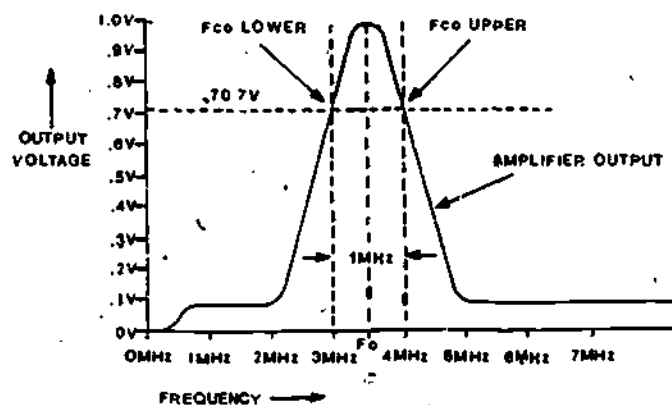

Figure 4
7. The amplifier characteristics you have covered can be presented in a frequency response curve as shown in Figure 4.
Frequency response curves will be common in your study of electronics. Figure 4 shows a frequency response curve for an amplifier with an input of .1 volt and a gain of 10. The frequencies of the input voltage are divided along the horizontal (or X) axis. The amplifier output voltages are divided along the vertical (or Y) axis. The curve of the amplifier output shows the output voltages which go with different frequencies of the input voltage. Recall that the maximum output for amplifiers = gain X input voltage at F_0 . In this example, the maximum output = $10 \times .1$ volt, or 1 volt. Now you can see that the upper and lower F_{co} 's, or half-power points, are located at the frequency points on the response curve at which the output voltage is only 70.7% of the output voltage at the center frequency. In this example, 70.7% of the maximum output voltage = $.707 \times 1$ volt, or .707 volts.